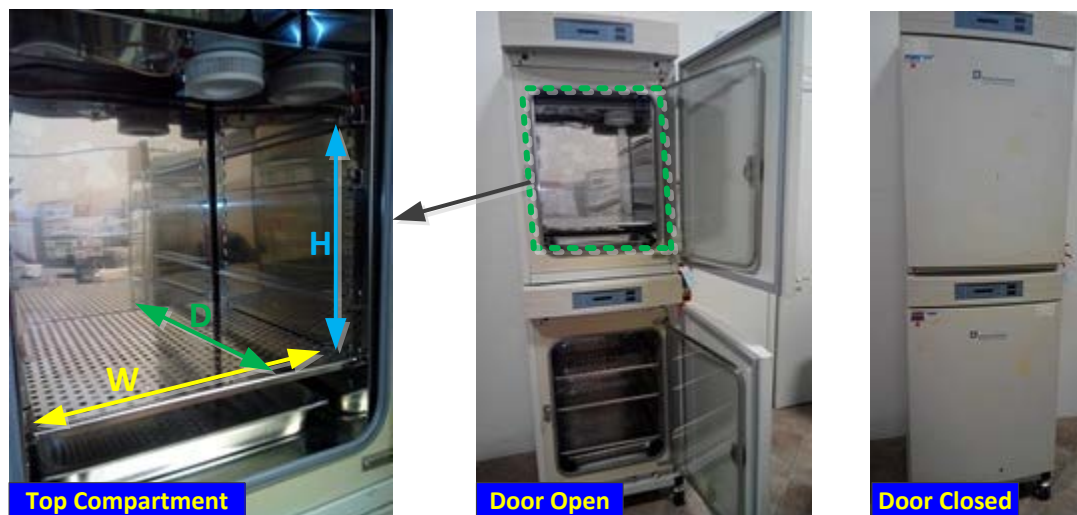

Figure 9. Incubator with 2 independent compartments
- Incubators: either option (1) or (2) below
- (1) Tall incubation with 2 independent compartments, each with standard internal space: 18"W x 18"D x 20+"H (see Figure 9); One compartment for Media Equilibration in non-humidified condition and one for Static Cell Seeding in humidified condition.
- (2) 1 standard-size incubator with single compartment (required minimum internal space: 16"W x 15"D x 14"H) for Media Equilibration in non-humidified condition, and 1 desktop-size incubator (no minimum internal space requirement) for Static Cell Seeding in humidified condition.